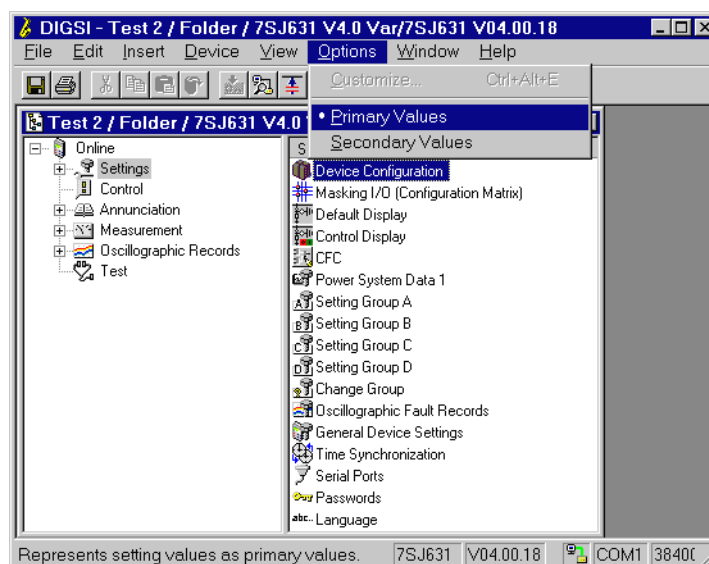

Figure 6-7 Selection of Primary or Secondary Value Entry — Example
- ☐ Click on **Options** in the menu bar, as shown in Figure 6-7.